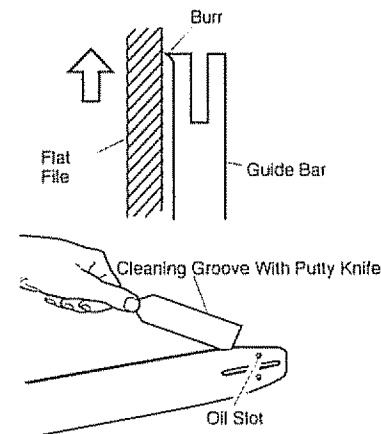

Figure 21 - Guide Bar Maintenance
2. Remove sawdust from guide bar groove periodically. Use putty knife or wire (see Figure 21)